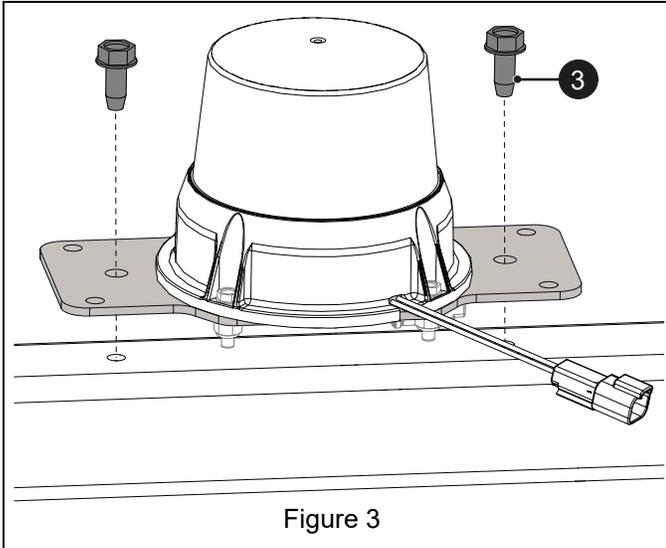

Figure 3
6. Secure light assembly to ROPS using two 5/16" x 3/4" hex washer head tapping screws (item 3). See Figure 3.